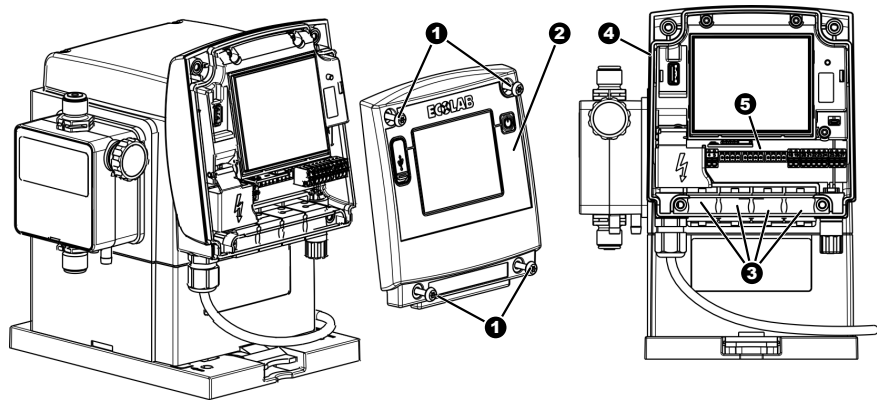

Fig. 11: 'EcoAdd' electrical installation
1. → Remove all four housing screws (Fig. 11, 1).
2. → Remove the front cover (2).
3. → Lead the connecting cables through the cable bushing (3).
Terminal assignment The terminals can be accessed after removing the front cover (Fig. 11, 2).